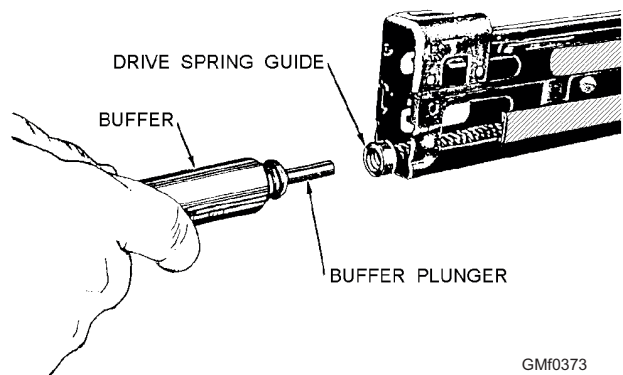

Figure 3-73.—Separating the buffer from the drive spring guide.
REMOVING THE BUFFER GROUP.—The buffer assembly group consists of the buffer yoke and the buffer. To disassemble the group, hold the palm of the hand against the exposed buffer and press lightly. Remove the buffer yoke from the top of the receiver as illustrated in figure 3-72. Withdraw the buffer slowly. Allow the drive spring to expand until the end of the drive spring guide is exposed at the rear of the receiver. Pull the buffer plunger from the drive spring guide (fig. 3-73).
hand, push forward on the rear of the bolt, causing the bolt to rotate until the locking lugs are in the vertical position. With the cam roller up, push the operating rod and bolt into the receiver until the end of the operating rod is even with the rear of the receiver. Insert the drive spring guide into the drive spring; then insert the opposite end of the drive spring in the recess of the operating rod, as shown in figure 3-77. Pull the trigger and push in the drive spring until the head of the guide is approximately an inch from the receiver (fig. 3-73).
4. Insert the buffer plunger into the drive spring guide, as shown in figure 3-73. Push forward on the buffer until the operating rod and bolt go fully forward. Push in on the buffer until the recesses on the buffer are aligned with the recesses in the receiver. Replace the buffer yoke from the top of the receiver, as shown in figure 3-72.